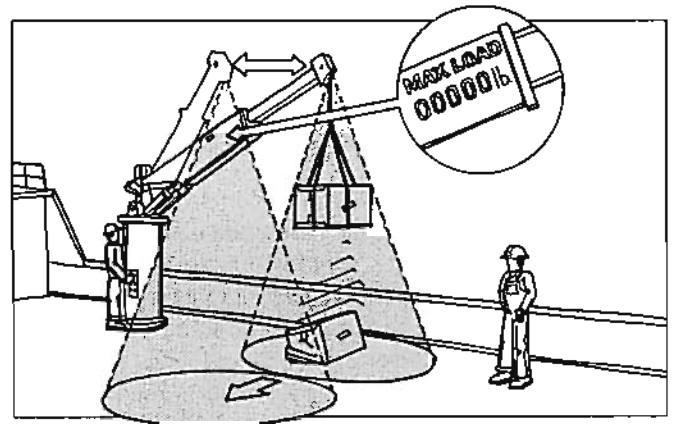

Figure 2-22. Staying out from under the load means staying out of the possible radius of swing.
- * Avoid dangerous positions: standing under a load, standing in a bight, or standing in the line of pull of a taut rope or cable that might give way (Figure 2-22).